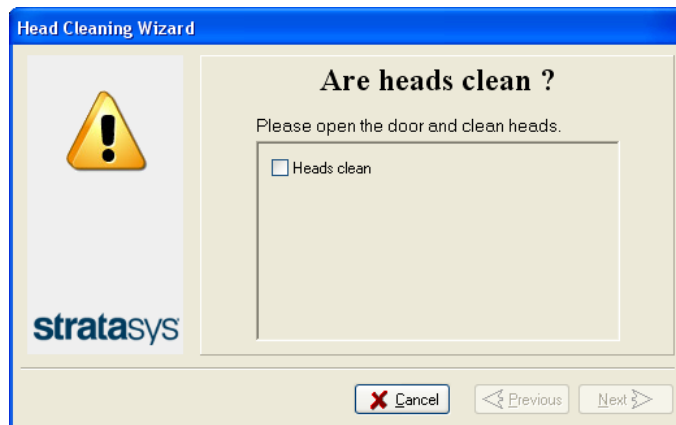

Figure 6-26 Head cleaning wizard—steps 5–11
11. When you have finished cleaning, select the confirmation check box in the wizard screen (see Figure 6-26) and click **Next**.